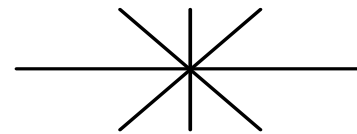

Figure 2.14 NOT Symbol
- NOT is used along with LD, AND and OR and the other sequential instructions. The value of NOT will reverse all of the inserted input or be used to define the inverse output. Figure 2.14 shows the symbol of NOT.